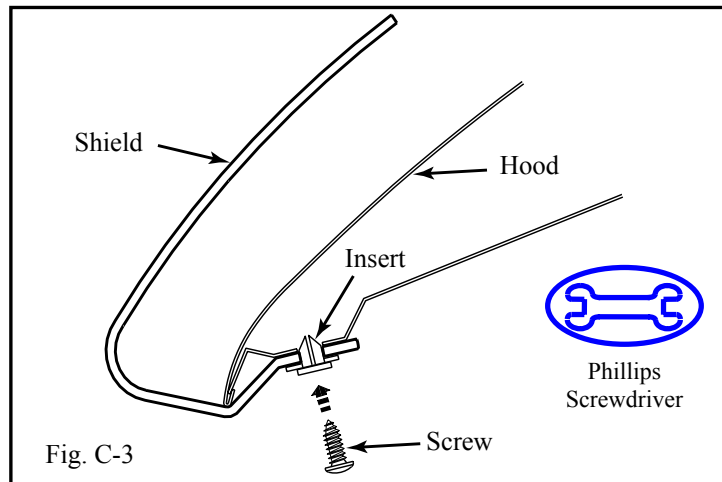

Fig. C-3
3. Screw the shield to the hood using the four (4) #10 screws. (Figure C 3)
4. Make sure all four (4) screws are tight.